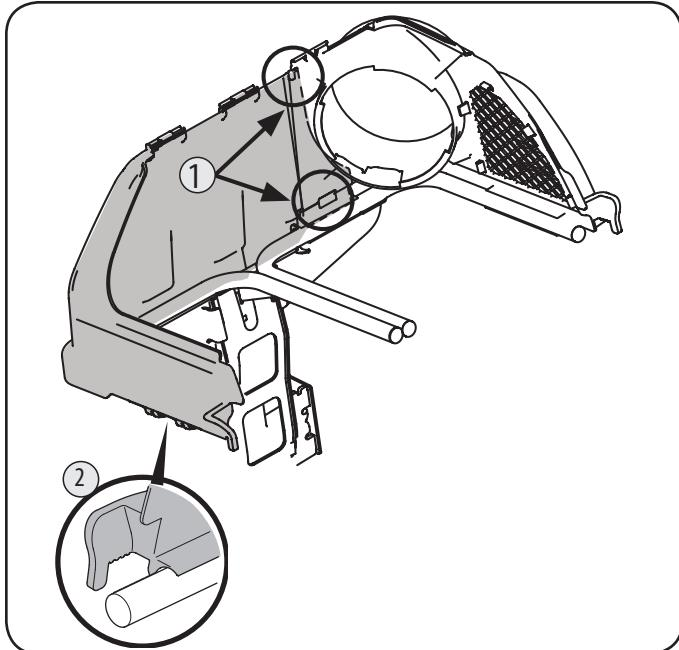

Figure 14
3. Slide the left side grass catcher cover over the upper chute support and the bag support assembly. Carefully latch the two tabs in place into the front of the upper chute support, see 1 in Figure 14. Fit the snaps onto the left side bagger rail support. See 2 in Figure 14.